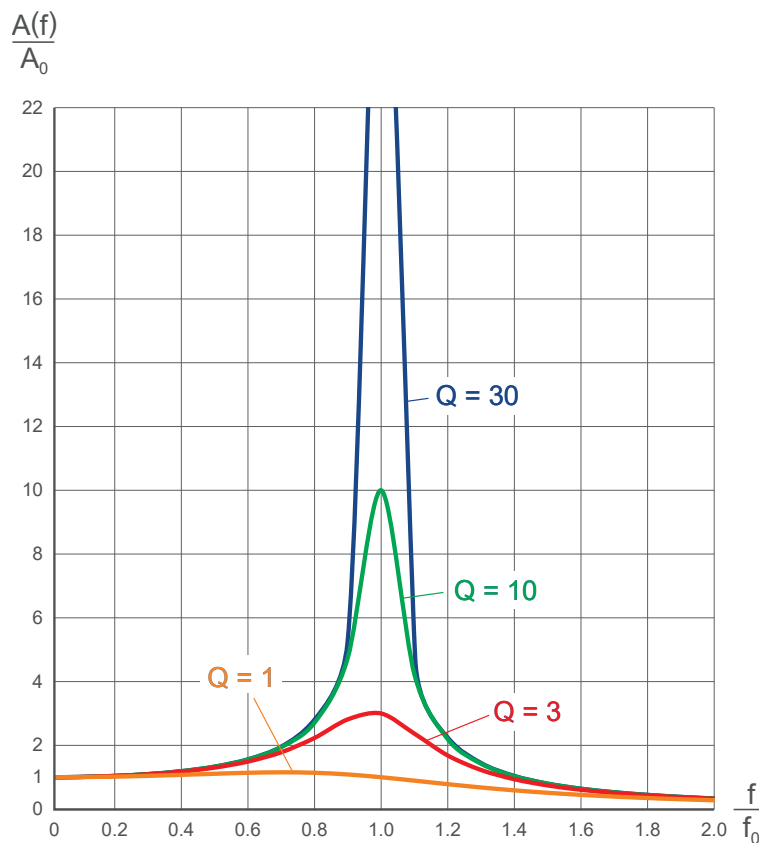

Fig.4-2 Drive Train Transfer Curve
The natural torsional frequency (f_0) determines the response of the torque measuring system and helps to determine whether rapid variations may influence the measuring system or whether the torque is amplified or damped by the drive train dynamics. The transfer curve (see Fig.4-2) for various quality factor values (Q), depending on the torsional system damping factor. The graph charts the factor by which the torque will be amplified, depending on the frequency of the torsional oscillations.